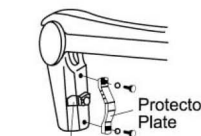
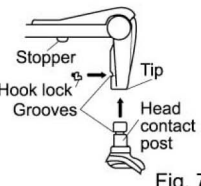

Fig. 6
Fig. 7
- 3-1 Remove the screw under the protector plate (Fig.6) and rotate the protector plate anti-clockwise till it is vertical. Remove the hook lock after loosening the screw. (Fig. 7)
- 3-2 Stand the machine head on the floor and keep it upright with two hands. Another person holds up the arm assembly and then inserts the tip of the arm into the machine head contact post.(Fig. 7)
- 3-3 Reinstall back the hook lock to the groove and then tighten the groove screw firmly. (Fig. 7)
- 3-4 Turn the protector plate clockwise back to the original position and then tighten the screw under the protector plate. (Fig. 6)
- 3-6 Remove the stopper and fix it in an opposite way for future spare use. Only after the installation is finished completely, and then you may move the arm assembly up and down, or it will damage the arm assembly. (Fig. 7)